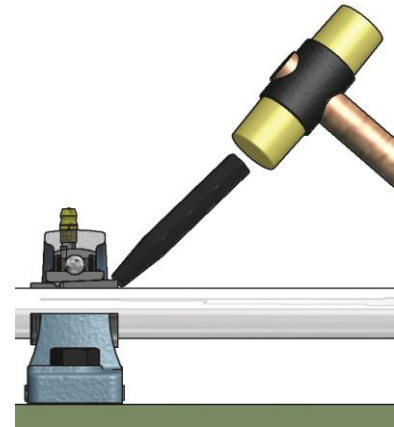

Fig. 4.3
- 5) Slightly tap the side of the sleeve diameter at the large end to increase the contact degree of sleeve and inner ring. (Fig. 4.3)